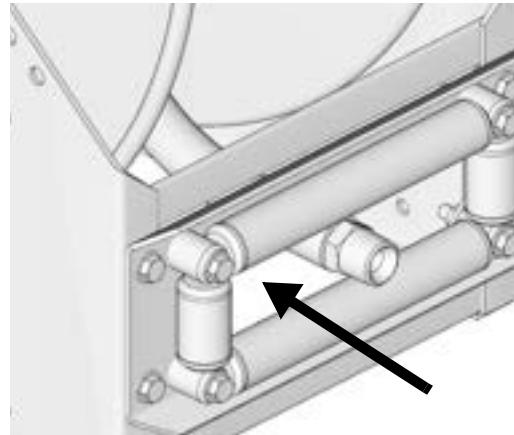

FIG. 19
5. Feed the loose end of hose through the hose rollers and manually wrap and secure hose onto reel (FIG. 19).